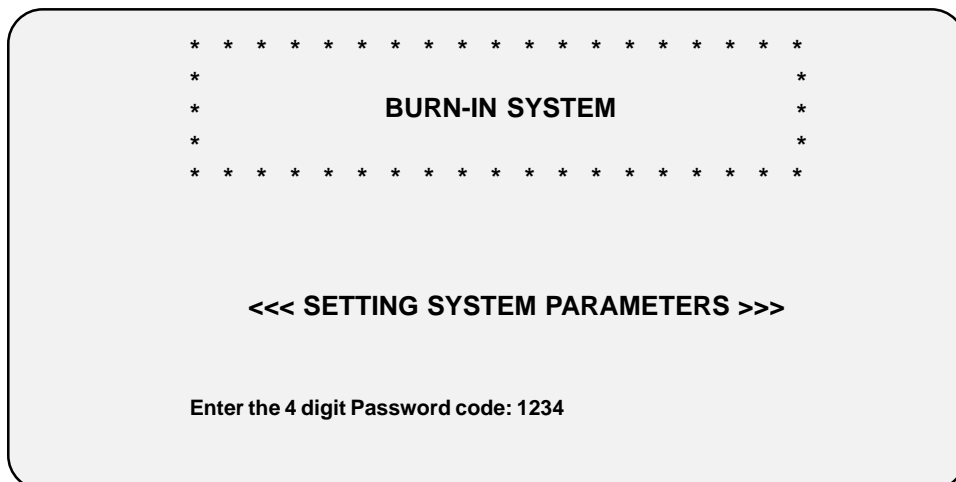

Figure 11. Setting system parameters (entering password code)
- 3. Press the **P** (Set System Parameters) key. The Setting System Parameters screen (Figure 11) appears prompting you to enter the systems 4-digit password code.